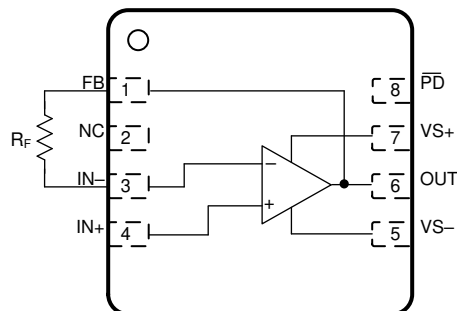

图 8-4. R_F Connection Between FB and IN- Pins
1. A feedback resistor (R_F) can connect between the FB and IN- pin on the same side of the package (see Figure 8-4) rather than going around the package.